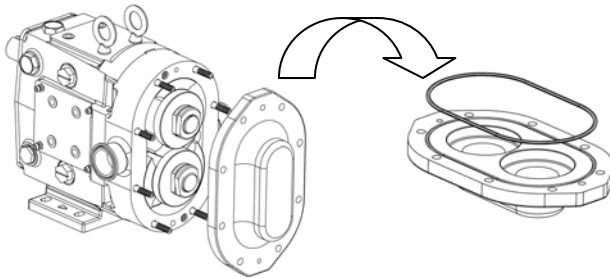

Figure 24: Removing Cover and Cover O-ring
2) Slide the cover off. If the cover is stuck to the pump body, use the soft mallet and tap the edges of the cover to break it loose. **DO NOT** use a screw driver or pry bar to break open the cover. Remove the cover o-ring and discard it, as it should be replaced (Figure 24).